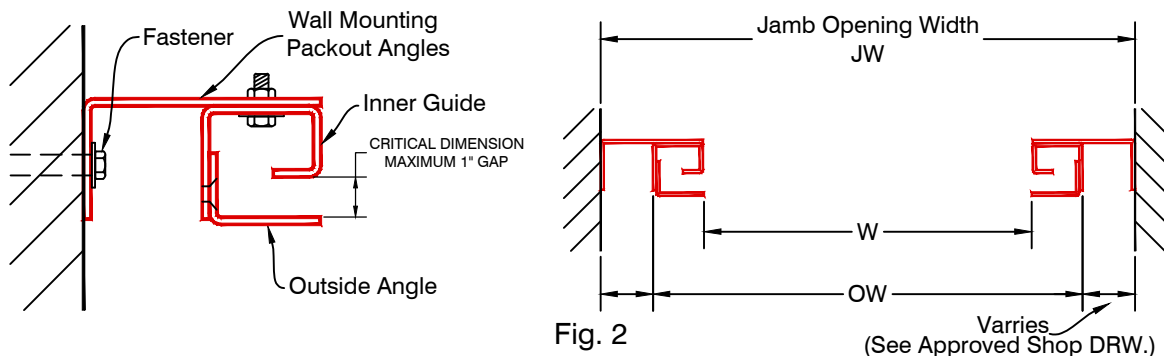

Fig. 2
1) Add the OW dimension plus the width of the packout angles and compare it to the jamb opening width, these measurements should be equal. Position the guides as shown in Fig. 2. NOTE: Upon completion, if any gaps or spacing exists between the tube and jamb, an approved method of fire proofing must be applied.